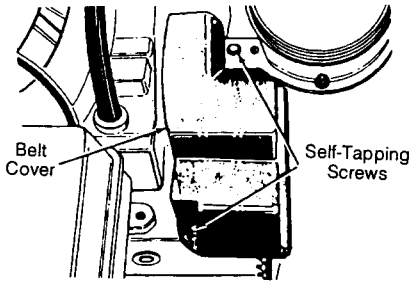

FIGURE 24 - Chute removed for clarity.
- Remove the plastic belt cover on the front of the engine by removing two self-tapping screws. See figure 24.